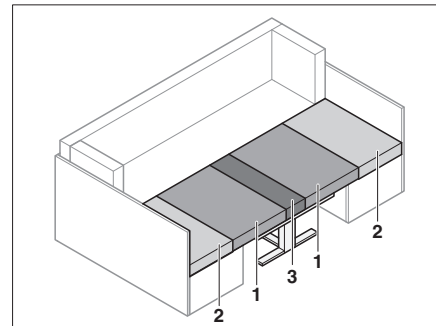

Fig. 69 After conversion
- Remove the back cushions (Fig. 69,2).
- Pull the seat cushions (Fig. 69,1) into the centre.
- Insert the back cushions (Fig. 69,2) between the seat cushions (Fig. 69,1) and the exterior wall.
- Insert the additional cushion (Fig. 69,3) onto the table between the seat cushions (Fig. 69,1).